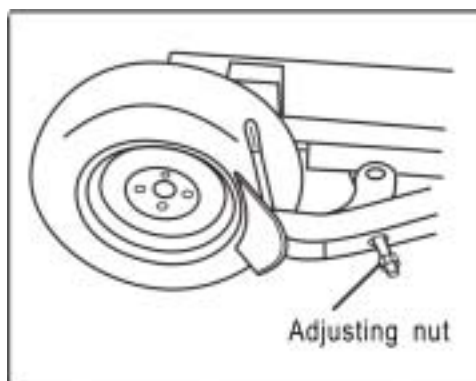

Fig.30
- The bead breaker is able to swing within a certain range. In case the range of swing is not appropriate, adjust the nut (Fig.30) at the right end of the piston rod.